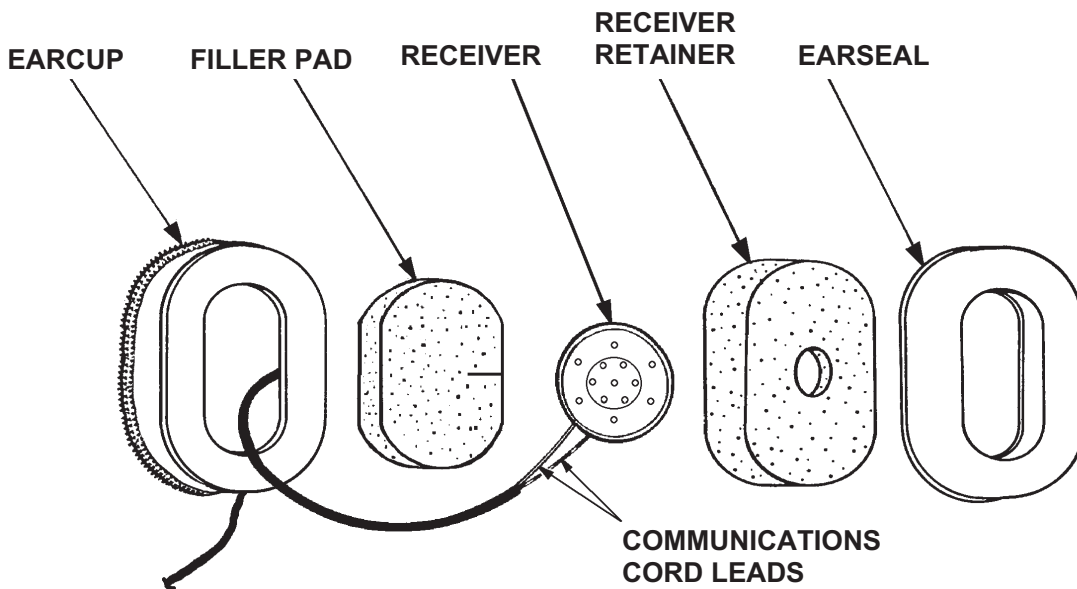

Figure 4-17. Earcup Assembly
11. Referring to Figure 4-17, remove the foam receiver retainer from each earcup.